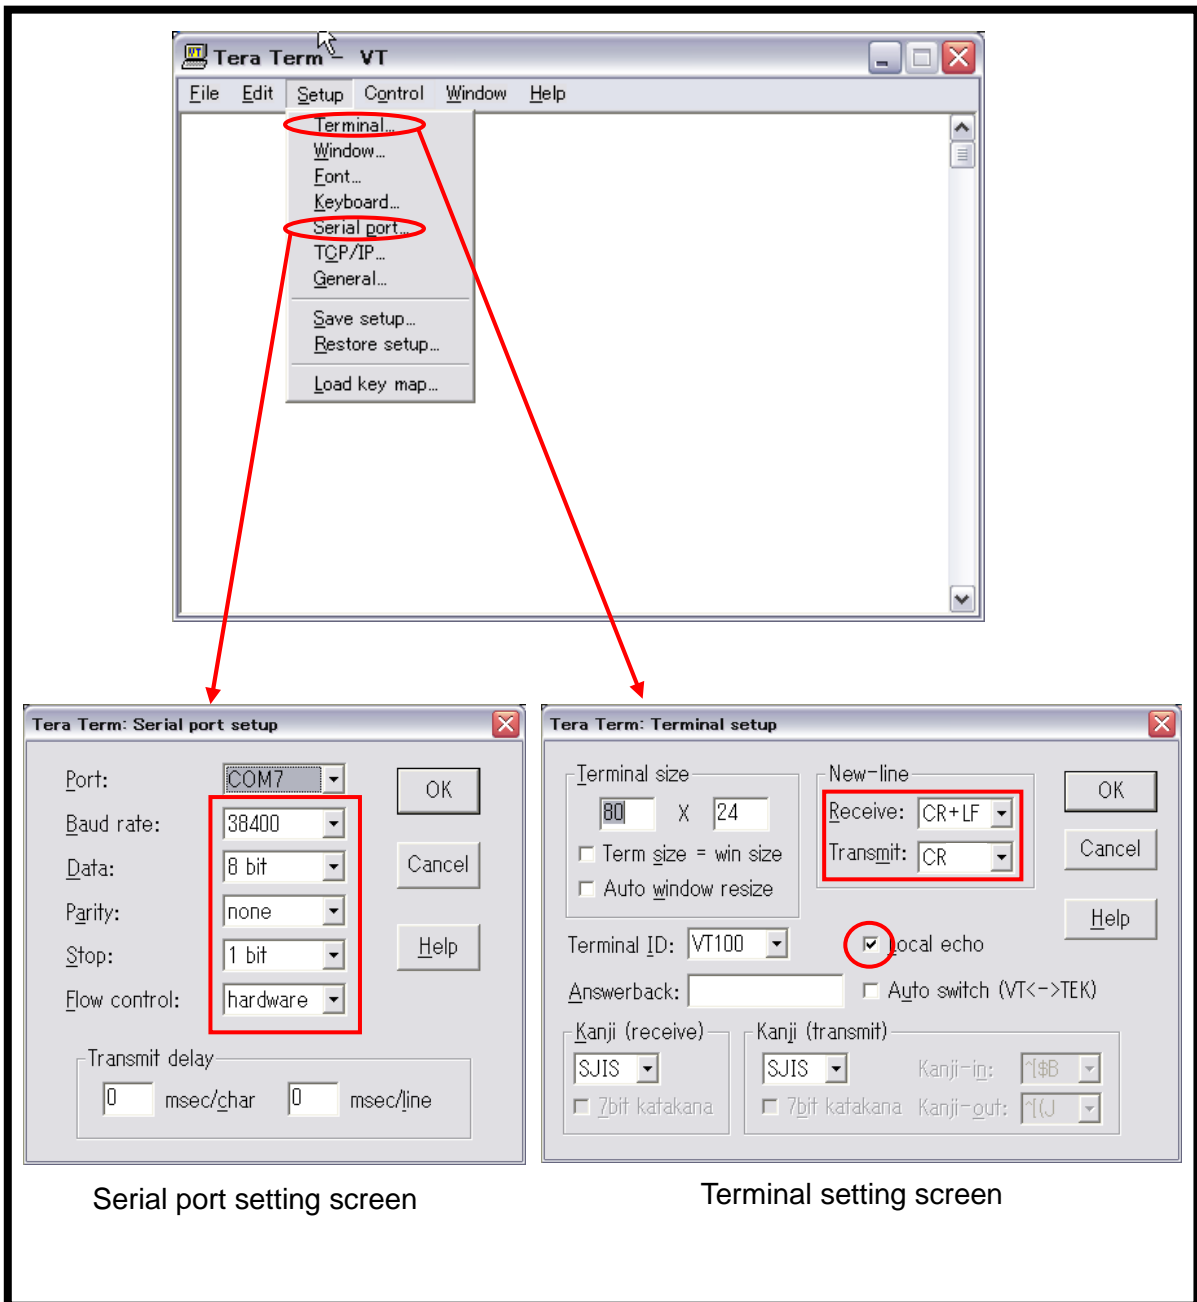

Fig.2 Tera Term communication setting
6. After starting, select **“Setup”** Menu => **“Serial port...”**, change setup into reference for Fig.2, and push the **“OK”** button.
7. Select **“Setup”** Menu => **“Terminal...”**, change setup into reference for Fig.2, and push the **“OK”** button.